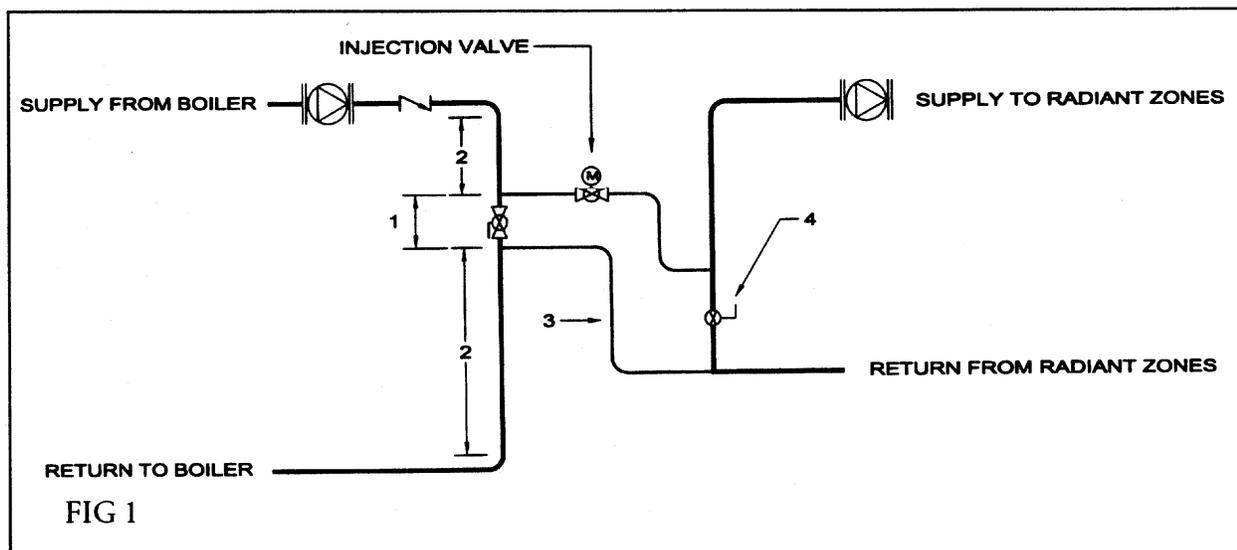

FIG 1
**Primary/Secondary injection** - this method creates a boiler loop around the boiler allowing cooler return temperatures from the system to be mixed with boiler temperature water resulting in higher return temperatures to the boiler. A boiler loop pump must be used in order to ensure this mixing of temperature. A circulator is installed in the boiler loop to create a constant flow of boiler temperature water around the boiler loop. Two closely spaced tees form the supply and return of the variable flow injection mixing system (see FIG 1). The following piping practices must be considered: